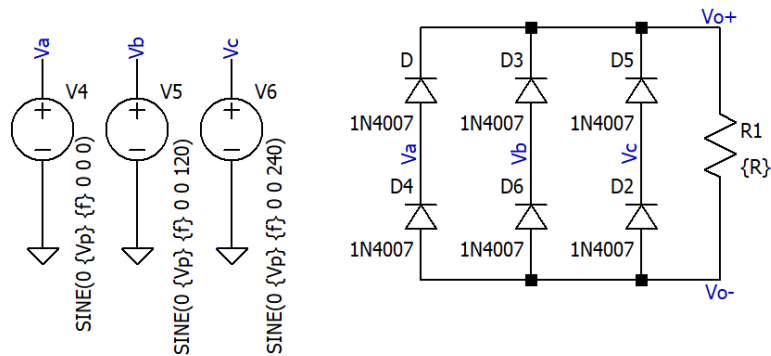

Figure 5.2 Uncontrolled 3-Phase full wave rectifier with resistive load
1. Connect the circuit as shown in Figure 5.2.